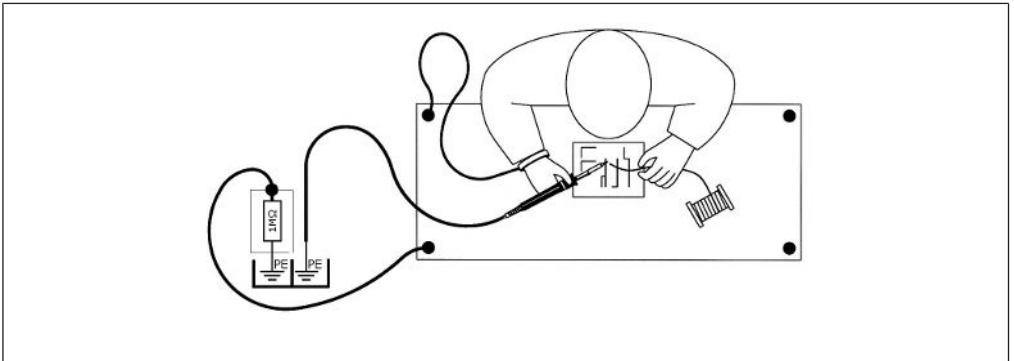

Fig. 1: Proper connection: Soldering iron with protection class 1 (protective earth conductor) and ESD earth plug in the same multiple socket outlet
The conductive ESD work base is connected via an ESD earthing plug (with built-in 1 MOhm safety resistor) to a protective earth contact (PE) of the same socket strip to which the protective earth conductor (PE) of the i-CON TRACE® is connected (see Fig. 1).